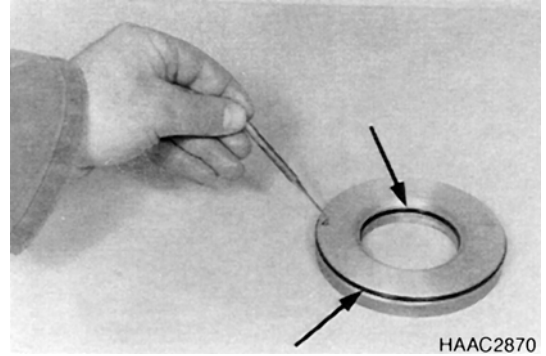

Figure 207
5. Insert both O-rings (Figure 207) into the piston recesses and oil them.